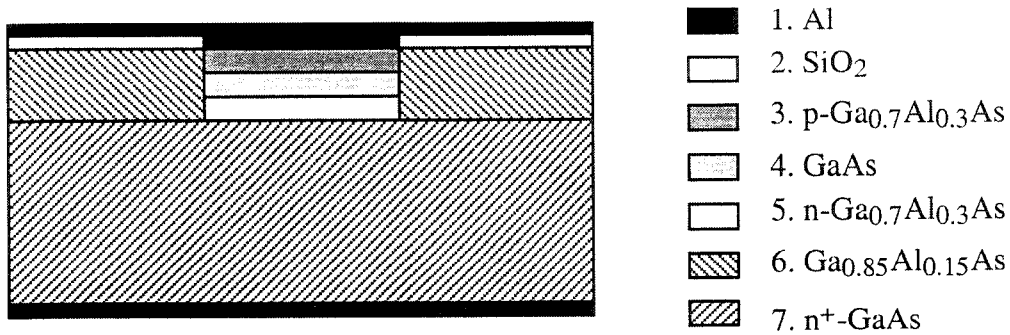

Figure 5.1
5. Figure 5.1 below shows the cross-section of a GaAs/GaAlAs double heterostructure semiconductor laser, together with a key to the material composition.